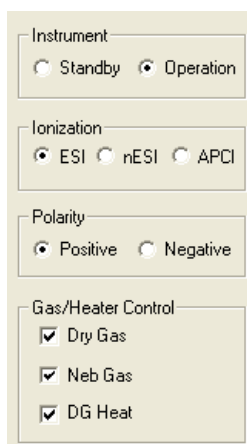

Figure 8-1 Instrument Control Group
1. In the BioTOF window, click the **Operation** option button in the Instrument group (Figure 8-1).